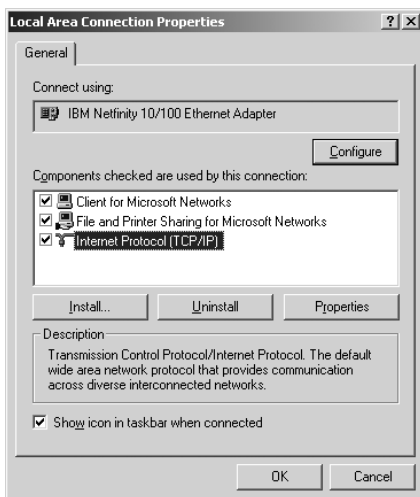

Figure 5: Local Area Connection Properties Window
5. Select the Internet Protocol (TCP/IP) and click the **Properties** Button (see Figure 5).